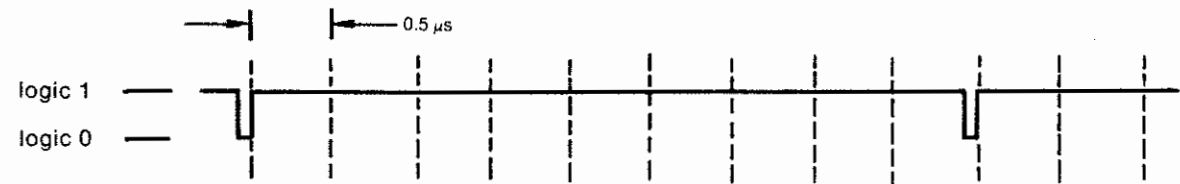

Figure 6-2. Waveform at Point DC ( $\overline{\text{DCLK}}$ )
4. Adjust position and sweep controls on scope so that the positive-going edges of two consecutive pulses are aligned with the first and the ninth vertical division lines. See figure 6-2.